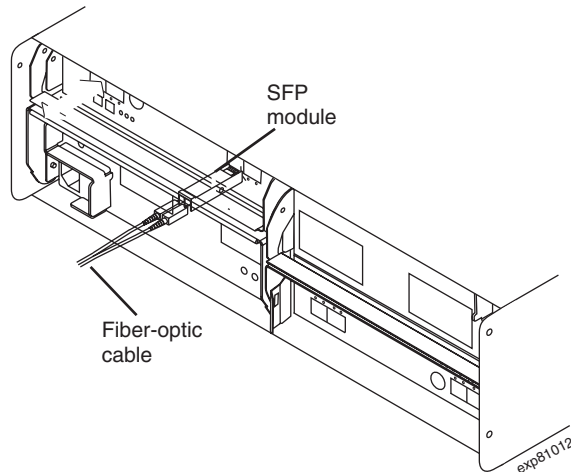

Figure 40. Installing an SFP module and connecting an LC-LC cable to the EXP810
3. Install an SFP module in the SFP port on the back of the EXP810; then, connect the other end of the LC-LC cable into the SFP module, as shown in Figure 40 on page 61.